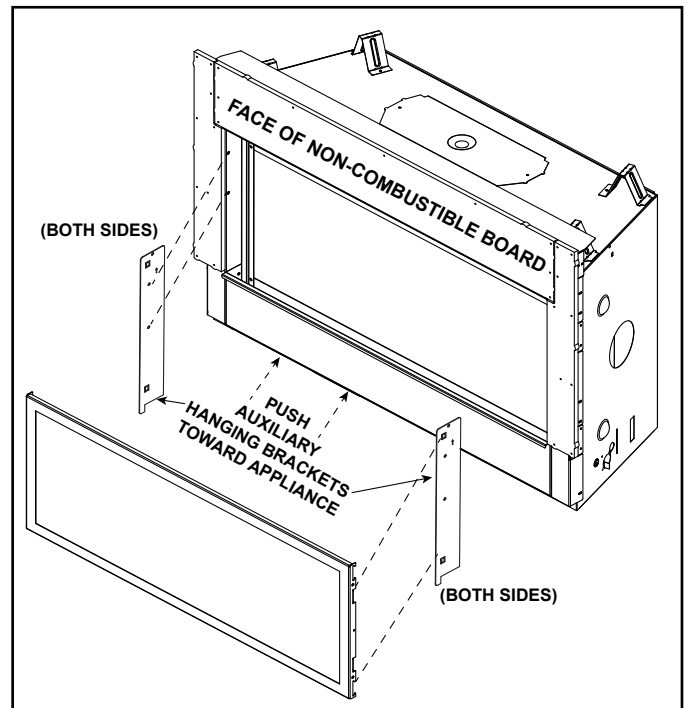
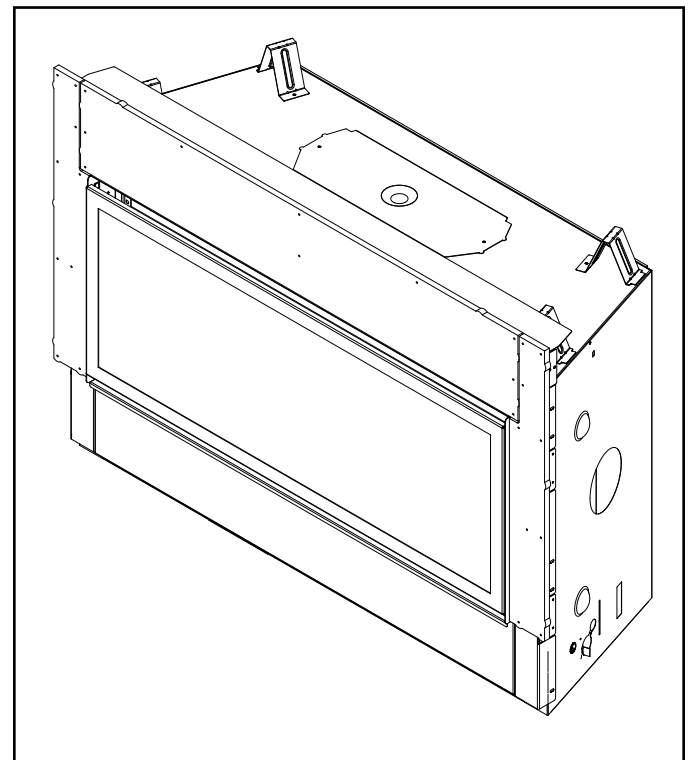

Figure 9. Install Auxiliary Hanging Brackets
Figure 10. CFTF Decorative Front Installed Without Outer Decorative Front Trim
3. Install the left auxiliary hanging bracket by positioning the arrow upward. Install a hex screw in each mounting hole and slide the bracket toward the appliance before tightening the screw. See Figure 9. Repeat for right auxiliary hanging bracket.
4. Install the decorative front assembly by hanging it from the four tabs located on the auxiliary brackets. There are two tabs on the left side and two tabs on the right side. See Figure 9 and Figure 10.